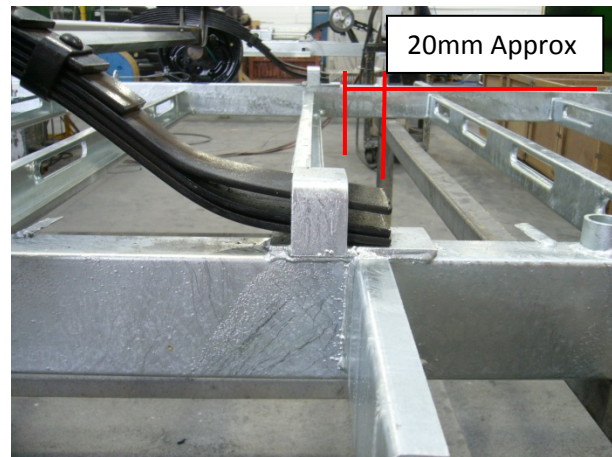

Figure 4
STEP 3 The rear of the slipper spring must be nested into the rear hanger as shown in figure 4 by approximately 20mm before moving onto step 4. It may be necessary to clamp the open leaves of the spring to enable these to be inserted into the rear hanger. It is also recommended that a small smear of grease be applied to the inside of the rear slipper to ease assembly and operation.